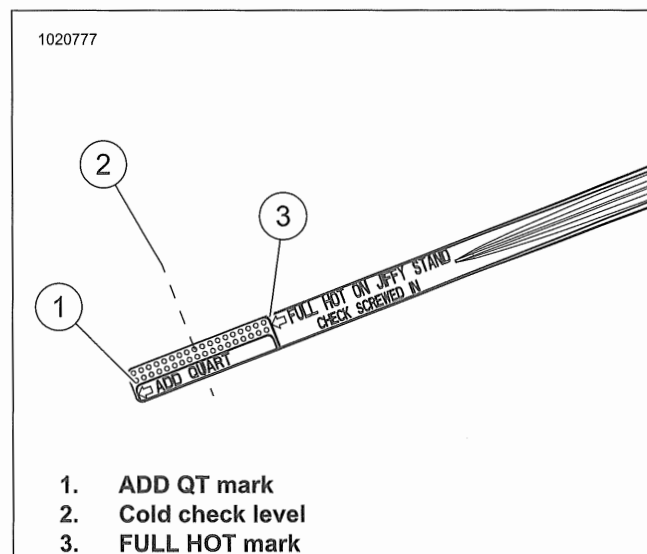

Figure 2-2. Engine Oil Dipstick
- e. See Figure 2-2. Check oil level. The correct cold oil level is midway (2) between the ADD QT (1) and FULL HOT (3) marks on the dipstick.
5. Check oil level. Add only enough to bring level midway between the ADD QT (1) and FULL HOT (3).
- e. See Figure 2-2. Check oil level. Oil level must register between the ADD QT and FULL HOT marks on the dipstick.